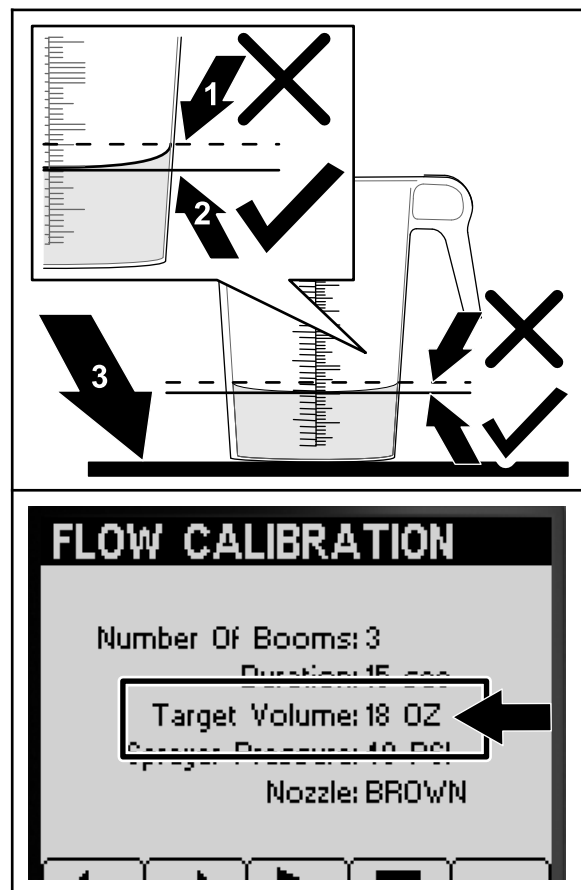

Figure 52
6. Set the graduated container on a level surface and note the fluid volume (Figure 52).
7. Compare the volume of fluid in the graduated catch container with the Target Volume displayed on the InfoCenter screen (Figure 52).